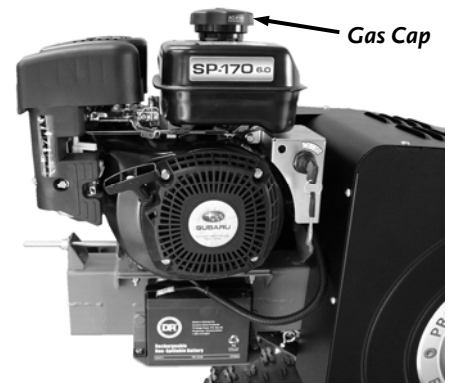

Figure 3
6. Remove the Gas Fill Cap and fill the Gas Tank with fresh, unleaded gas (with a minimum of 85 Octane) to approximately 1" to 1-1/2" below the top of the fill neck to allow for fuel expansion (**Figure 3**). Be careful not to overfill. Install the Gas Fill Cap before starting the engine. See your Engine Owner's Manual for more detailed information.